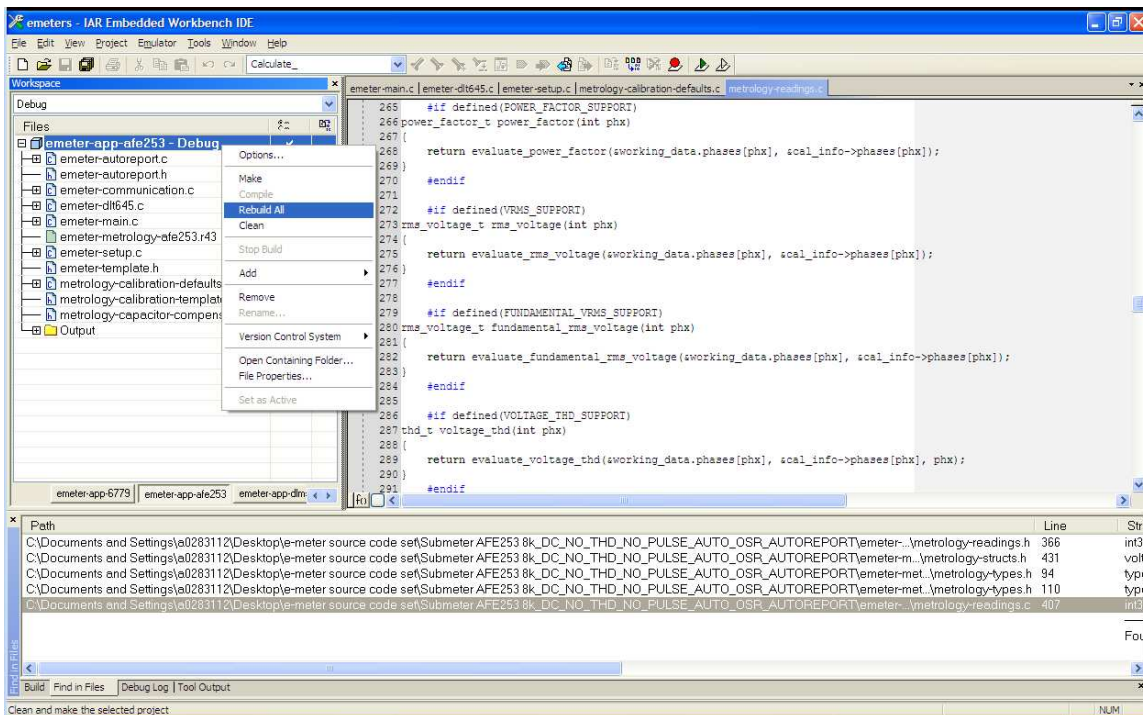
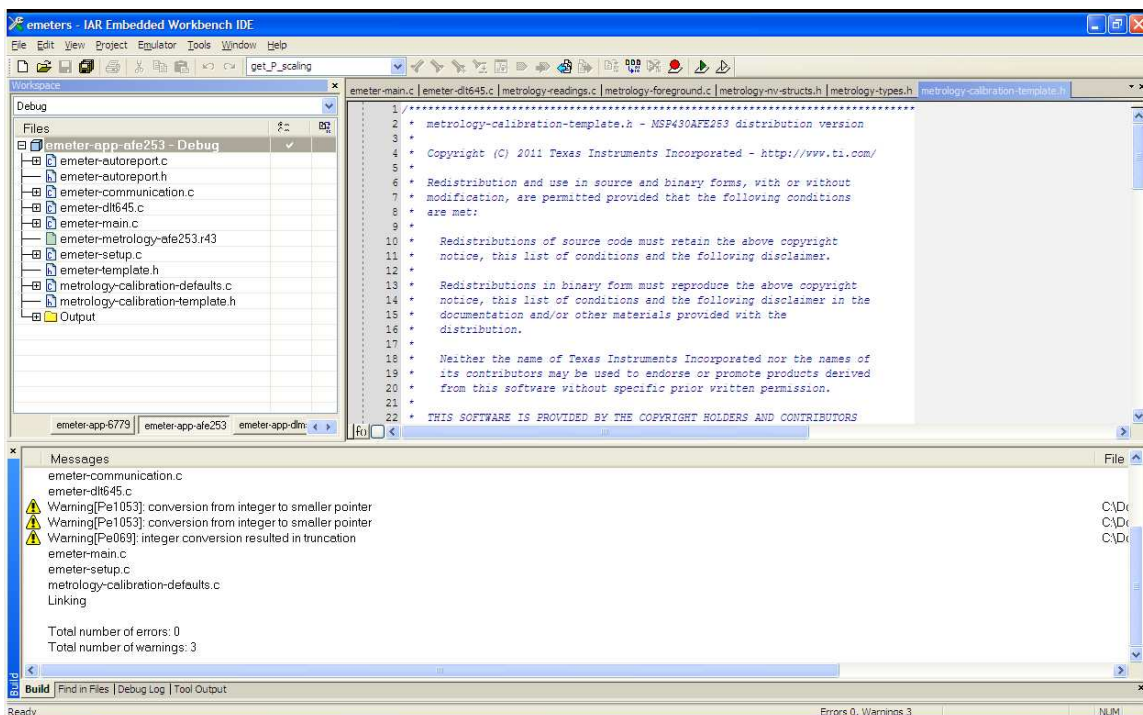

Figure 20. Compiling the Application
Figure 21. Warnings
7. Rebuilding the project by right clicking on the project and select [Rebuild All] from the pop-up menu (Figure 20). 3 warnings will be reported during rebuilding (Figure 21), it is safe to ignore the 3 warnings.